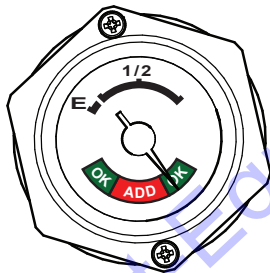

Figure 33. LPG Fuel Gauge
3. Read the fuel gauge (Figure 33) on the propane tank to determine if the propane level is low.